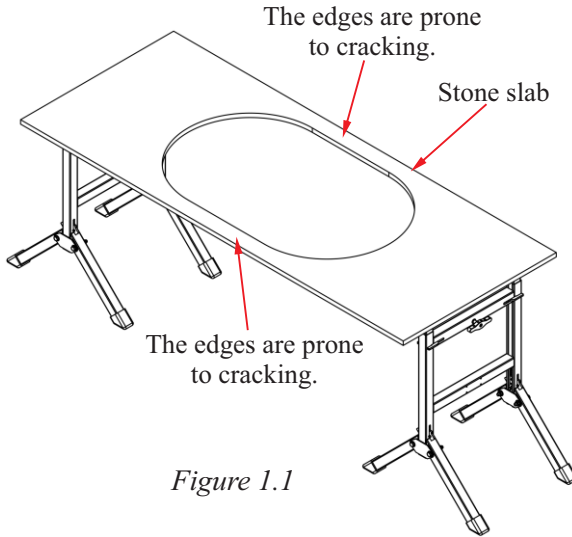

Figure 1.1
Step 1: Place the material sheet on the table (Figure 1.1).